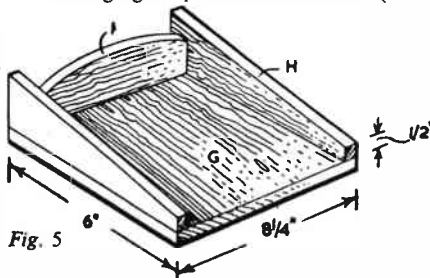

Fig. 5
The pressure board is made up as shown in Fig. 5. The sloping sides (H) are screwed and glued to piece (G). The curved piece is  $7\frac{1}{2}$ ins. long and is fixed between the sides as shown.